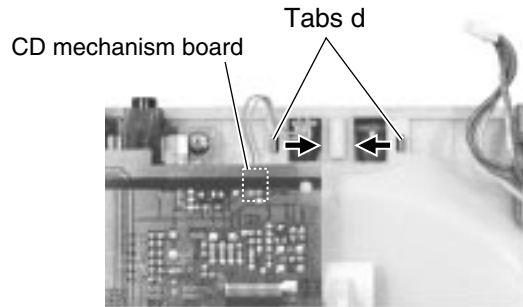

Fig.40
**■Removing the LED board (See Fig.40 and 41)**